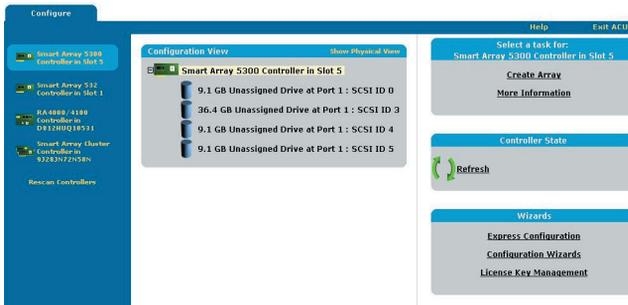

Figure 1-2: Main ACU configuration screen
The main ACU configuration screen (Figure 1-2) is displayed.
ACU now opens the controller-specific configuration screen. By default, this screen is presented in Standard configuration mode. If you want to use a different configuration mode, select a wizard from the lower right-hand panel of the main ACU configuration screen (Figure 1-2). The procedure for using each mode is described in this chapter.
1. Click **Express Configuration** in the lower right-hand panel of the main ACU configuration screen (Figure 1-2). The Express mode start screen is displayed.
1. Click **Configuration Wizards** in the lower right-hand panel of the main ACU configuration screen (Figure 1-2).